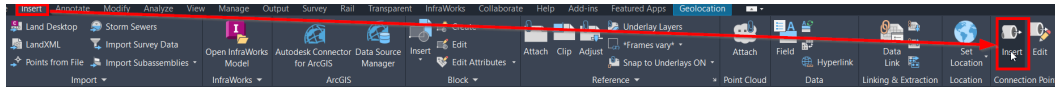

Figure 7.11 – Accessing the Insert Connection Point command
3. Select the **Insert Connection Point** tool (refer to *Figure 7.11*).